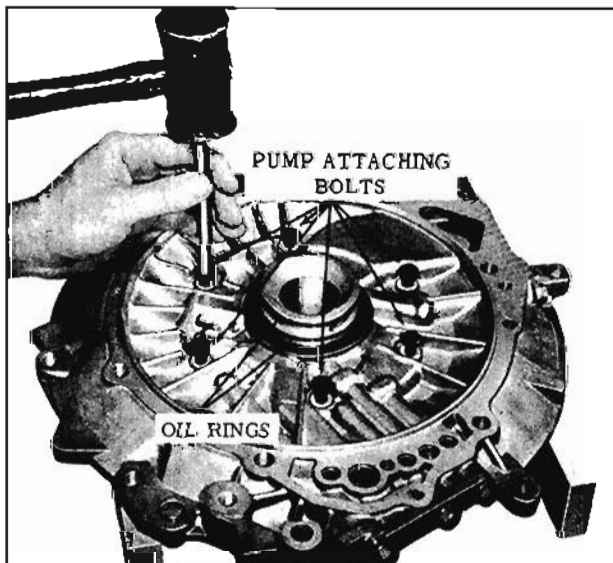

Fig. 6-51 Removing Oil Pump
2. Support cover so that pump is off bench and gently tap loosened bolts to disengage pump from case cover. (Fig. 6-51)